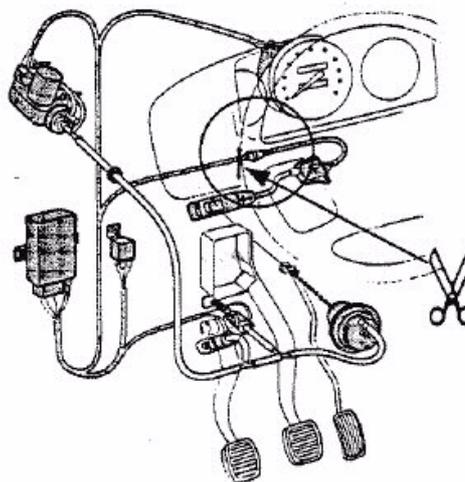

Figure 1. Cut the wires to the Cruise Control Switch.
6. Cut the wiring harness to the cruise control switch as close to the connector as possible (Figure 1). Remove the switch.